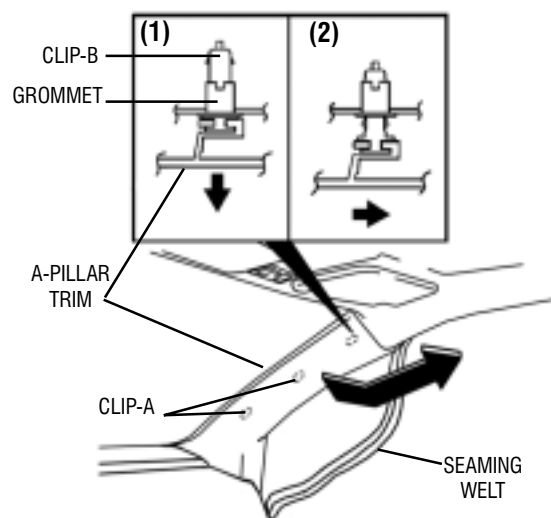

FIGURE 11
- 4.) SLIDE THE A-PILLAR TRIM UPWARD TO REMOVE. (SEE FIGURE 11)